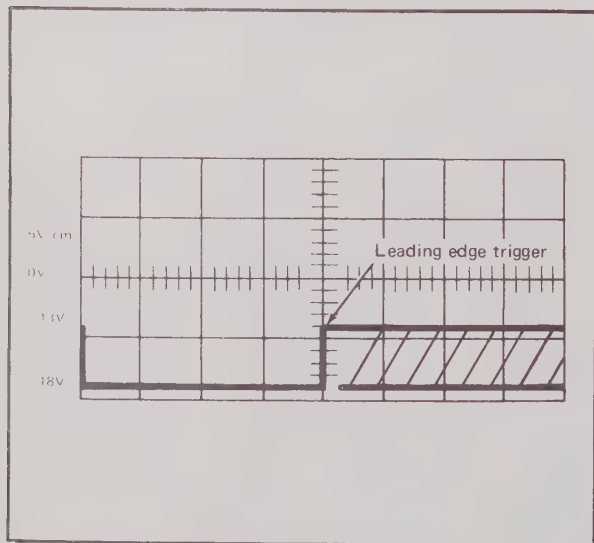

Figure 4-4. TP17 COMPARE SIGNAL
- b. The scope presentation shown in Figure 4-4 represents the proper compare signal for an 8800A input of +1 volt dc.